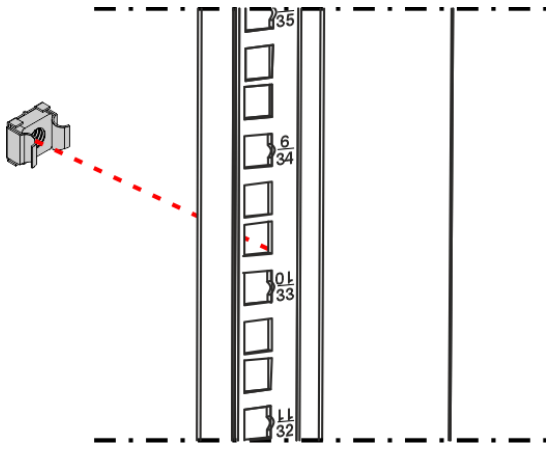

Fig. 26
- 01) Put 4 **cage nuts (A)** in front of the holes on the vertical brackets at the place where you want to mount the equipment, as shown in Fig. 26.